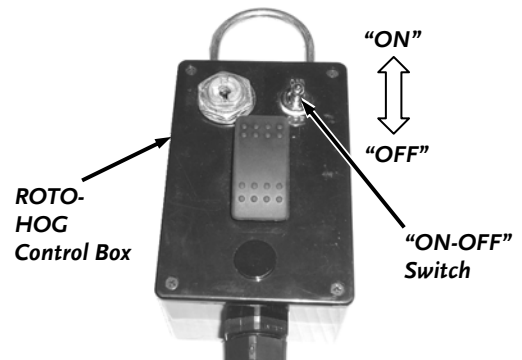

Figure 12
1. Move the "ON-OFF" Switch on the ROTO-HOG Control Box to the "OFF" position (**Figure 12**).